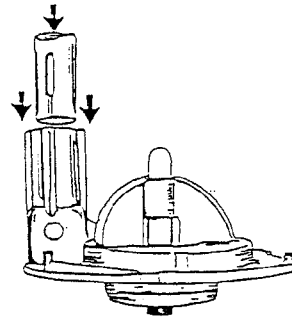

Figure 4
2. Lock the spray tube into the pump cover. Use warm water on pump cover to ease insertion or removal of spray tube. (See Fig. 4)